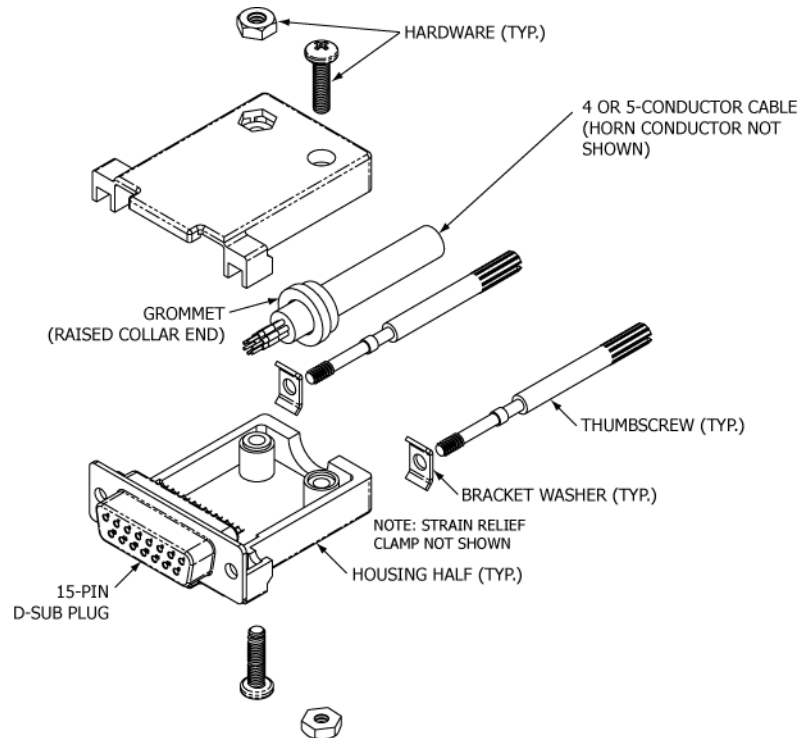

Figure 24 D-Sub Plug Assembly
- 2) Feed the wiring harness, ground wire, and buzzer power wire through the rubber grommet, such that the raised collar end of the grommet fits inside the housing. See Figure 24 D-Sub Plug Assembly on page 59.